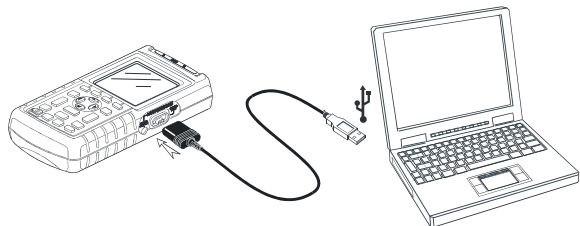

Figure 1-24. Connecting a Computer
- Use the Optically Isolated RS-232/USB Adapter/Cable (OC4USB) to connect a computer to the OPTICAL PORT of the test tool. See Figure 1-24.